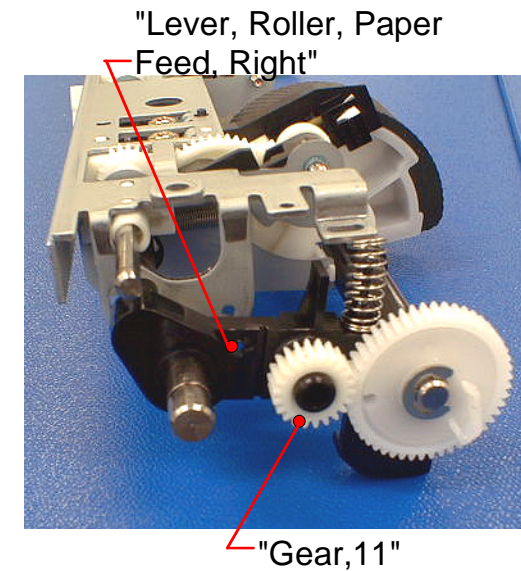

Figure 4-170. Installing "Gear,11"
38. Push "Gear,11" into the protrusion on the "Lever, Roller, Paper Feed, Right". (See figure4-170)